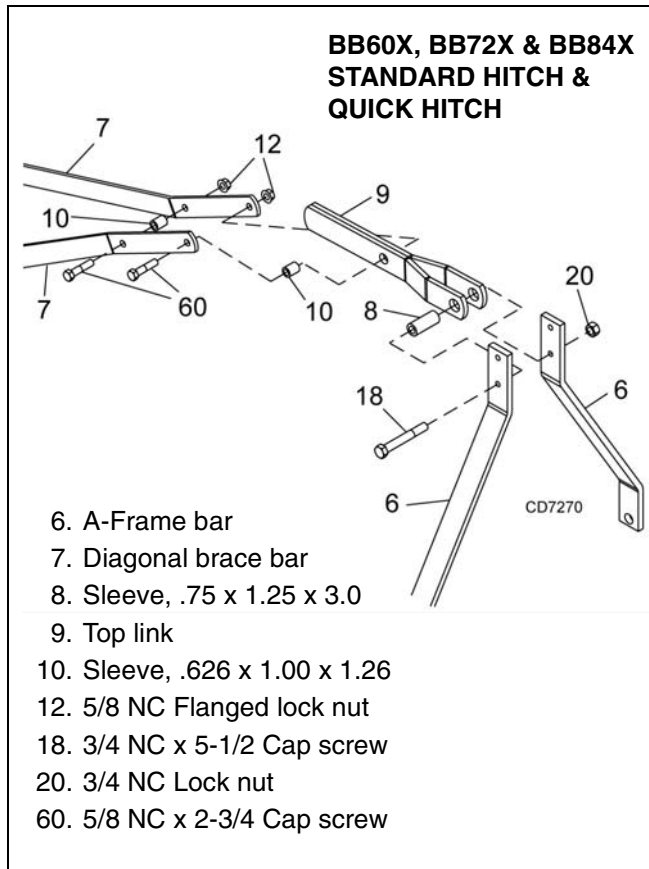

Figure 37. Diagonal Brace Bars to A-Frame Connection - BB60X, BB72X & BB84X
2. Remove bolt (60), spacer (10) and nut (12) from front hole in brace bar (7).
3. Assemble top link to brace bar with previous hardware as shown in Figure 37.